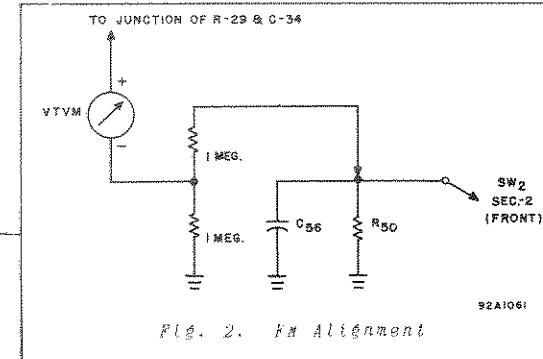

Fig. 2. RF Alignment
| 5 | Same as step 1. | Same as step 3. Increase output to approx. 1000 microvolts. | RECEPTION switch at NBFM. Other controls same as step 1. | Same as step 1. | (3) | Set up circuit shown in Fig. 2. Until vacuum tube voltmeter shows zero voltage. |